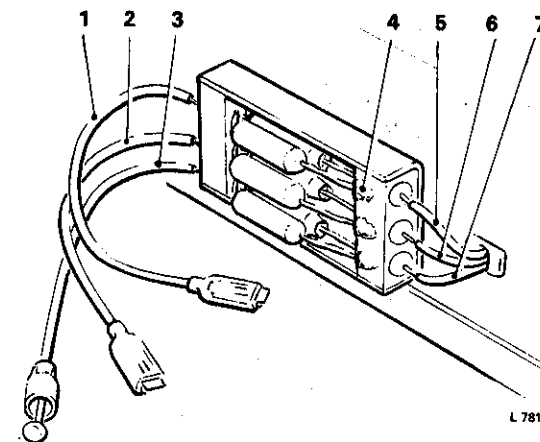

Fig. 3 - Fitting cables to filter unit
It is imperative that when fitting the filter unit, that the earthed ends of the three red capacitors are fitted to the radio input cables. The earthed ends of the three red capacitors are those soldered directly to the body of the filter unit as shown in Figure 3.
4. Cut the two radio output cables to a suitable length and solder them to the filter unit as shown in Figure 3.
5. Cut the radio feed supply cable to a suitable length and solder to the filter unit as shown in Figure 3.
6. Solder the remaining three cables to the opposite end of the filter unit. Ensure that matching colours are soldered opposite each other e.g. red to red, as shown in Figure 3.